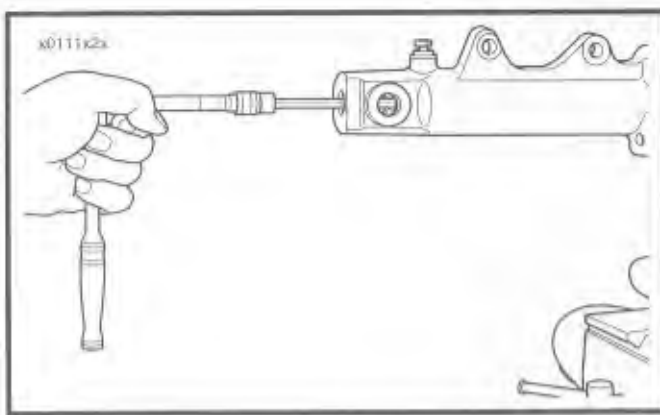

Figure 2-66.
9. See Figure 2-66. Remove the socket head bolt.